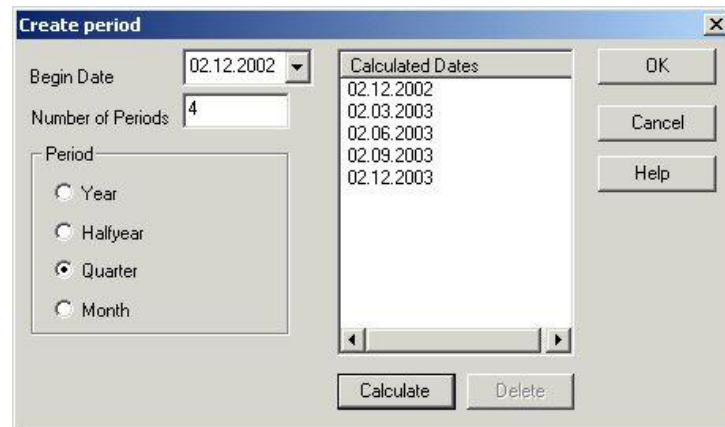

Figure 23: Dialog - Editing Intervals
- 1) Click **Periods** in the **Extended Properties** dialog. The dialog for creating periods open. *Please refer to the Figure 23.*
- 4) After all of the required information for intervals has been provided, click **Calculate**. The result is displayed according to the information provided. *Please refer to the Figure 23.*